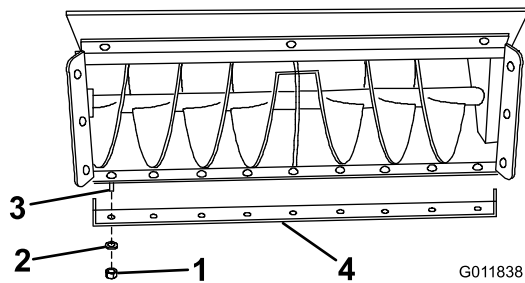

Figure 10
2. Remove the nuts, washers, carriage bolts, and scraper blade (Figure 10).
3. Replace the scraper blade and secure the new blade with the previously removed hardware (Figure 10).